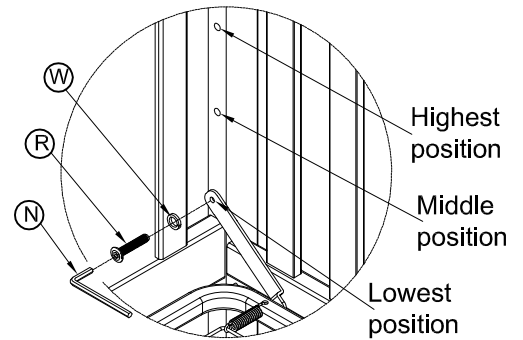

FIG. 3.3
- Insert the 8 (eight) Allenbolt 5/8" (15 mm) (R), into the exposed threaded holes on side frame as shown in FIG.3.3 & 3.4.
- Tighten all bolts with allenkey (N).